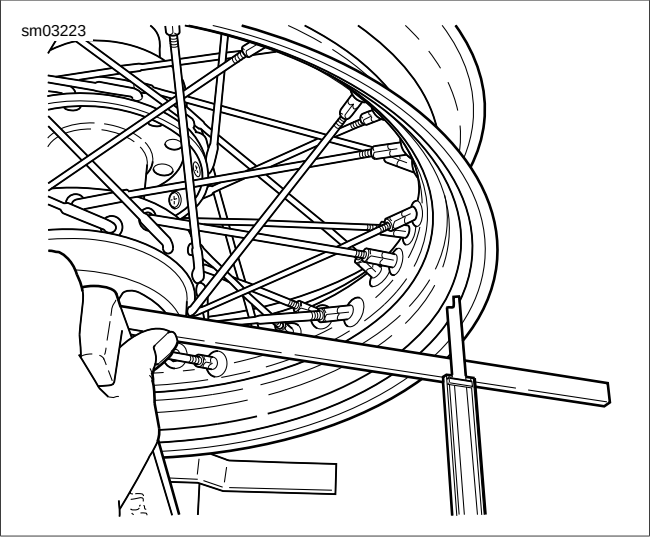

Figure 2-19. Checking Wheel Hub Offset Dimension (typical)
- See Figure 2-19. Mount wheel in WHEEL TRUING STAND (Part No. HD-99500-80) using truing arbor. Tighten arbor nuts so hub will turn on its bearings.